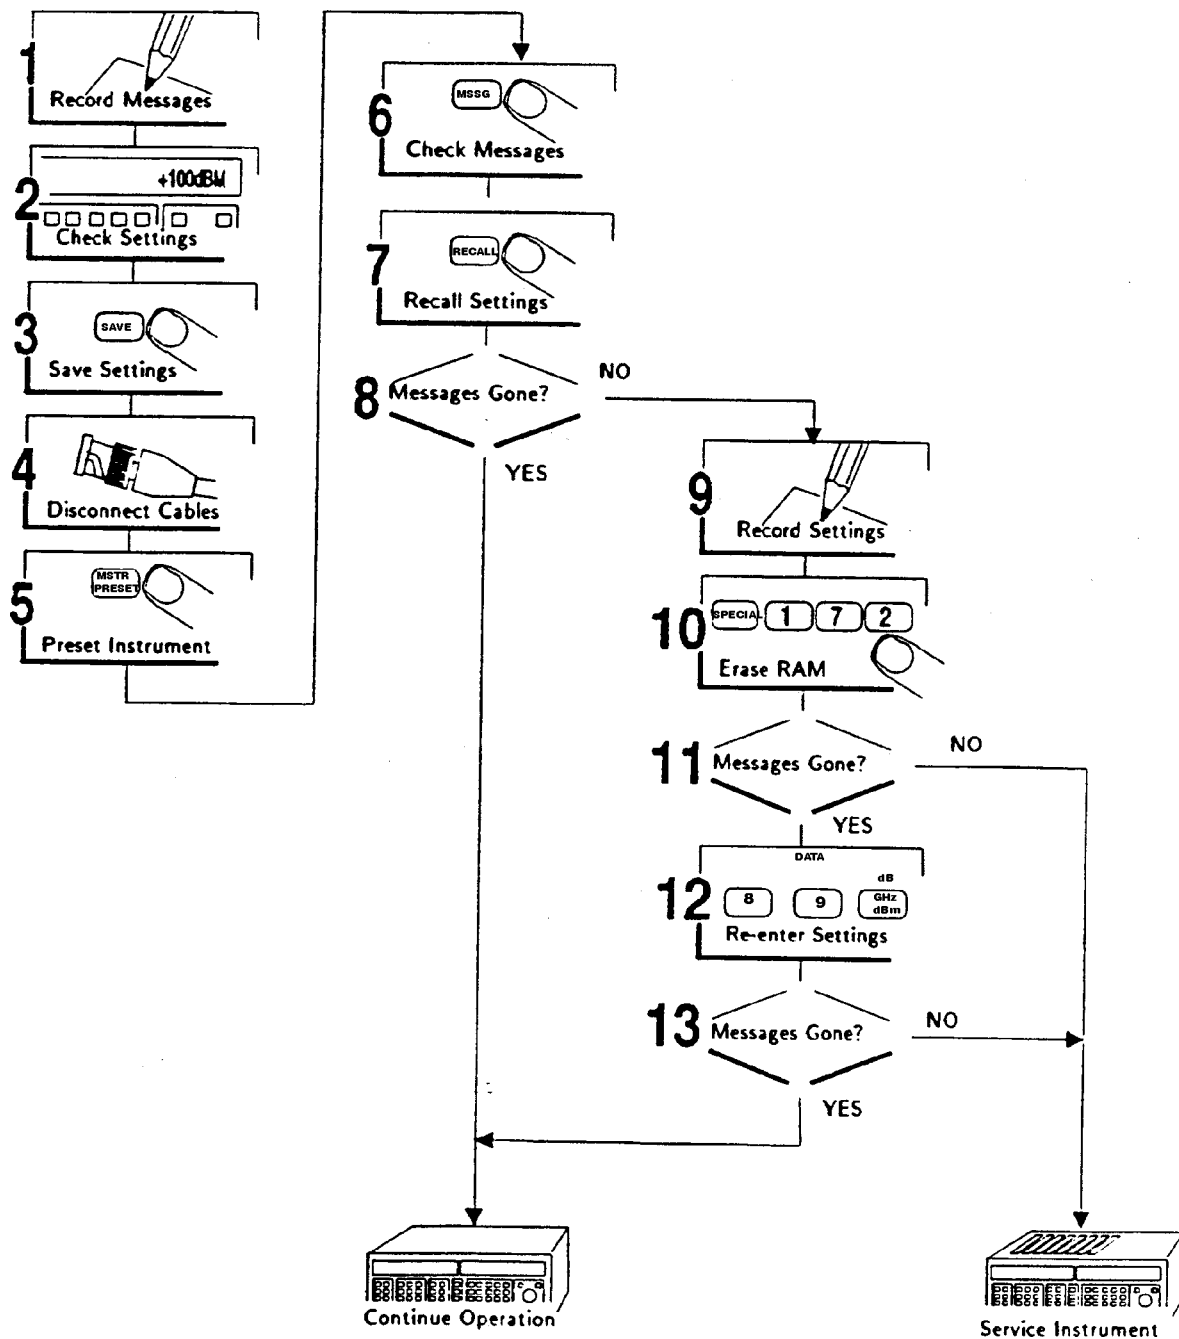

Figure 1. Corrective Action for Error Messages
Hardware Failure 1	A communications discriminator failure has been detected at power up, or detected as a result of a self-calibration or self-test. Refer to Figure 1 for corrective action.
Hardware Failure 2	A VCO failure has been detected at power up, or detected as a result of a self-calibration or self-test. Refer to Figure 1 for corrective action.
Hardware Failure 3	A Fractional-N failure has been detected at power up, or detected as a result of a self-calibration or self-test. Refer to Figure 1 for corrective action.
Hardware Failure 4	A modulation distribution failure has been detected at power up, or detected as a result of a self-calibration or self-test. Refer to Figure 1 for corrective action.
Hardware Failure 5	An ALC failure has been detected at power up, or detected as a result of a self-calibration or self-test. Refer to Figure 1 for corrective action.
Hardware Failure 6	An attenuator failure has been detected at power up, or detected as a result of a self-calibration or self-test. Refer to Figure 1 for corrective action.
Hardware Failure 7	An audio source failure has been detected at power up, or detected as a result of a self-calibration or self-test. Refer to Figure 1 for corrective action.
Hardware Failure 8	A reference failure has been detected at power up, or detected as a result of a self-calibration or self-test. Refer to Figure 1 for corrective action.
Hardware Failure 9	A doubler failure has been detected at power up, or detected as a result of a self-calibration or self-test. Refer to Figure 1 for corrective action.
Hardware Failure 10	A High Frequency Output Section failure has been detected at power up, or detected as a result of self-calibration or self-test. Refer to Figure 1 for corrective action.
Hardware Failure 11	A Low Frequency Output Section failure has been detected at power up, or detected as a result of self-calibration or self-test. Refer to Figure 1 for corrective action.
Hardware Failure 12	A Microwave Extender Automatic-Level-Control (ALC) out-of-lock (OOL) condition occurred. Refer to Figure 1 for corrective action.
Hardware Failure 13	A front panel failure has been detected at power up, or detected as a result of a self-calibration or self-test. Refer to Figure 1 for corrective action.
Hardware Failure 14	A power supply failure has been detected at power up, or detected as a result of a self-calibration or self-test. Refer to Figure 1 for corrective action.
Hardware Failure 15	An I/O board failure has been detected at power up, or detected as a result of a self-calibration or self-test. Refer to Figure 1 for corrective action.
Hardware Failure 16	A controller failure has been detected at power up, or detected as a result of a self-calibration or self-test. Refer to Figure 1 for corrective action.
Hardware Failure 17	A Pulse Modulator failure has been detected at power up, or detected as a result of a self-calibration or self-test. Refer to Figure 1 for corrective action.
Hardware Failure 18	A frequency counter failure has been detected at power up, or detected as a result of a self-calibration or self-test. Refer to Figure 1 for corrective action.
Hardware Failure 21	A communications discriminator out-of-lock (OOL) condition exists. Refer to Figure 1 for corrective action.
Hardware Failure 22	A VCO out-of-lock (OOL) condition exists. Refer to Figure 1 for corrective action.
Hardware Failure 23	A Fractional-N (NF) phase-locked-loop (PLL) out-of-lock (OOL) condition exists. Refer to Figure 1 for corrective action.
Hardware Failure 24	A VCO frequency-locked-loop (FLL) out-of-lock (OOL) condition exists. Refer to Figure 1 for corrective action.
Hardware Failure 25	A VCO phase-locked-loop (PLL) out-of-lock (OOL) condition exists. Refer to Figure 1 for corrective action.
Hardware Failure 26	A fast controller failure has been detected at power up, or detected as a result of a self-calibration or self-test. Refer to Figure 1 for corrective action.
Hardware Failure 27	An audio source out-of-lock (OOL) condition exists. Refer to Figure 1 for corrective action.
Hardware Failure 28	A reference out-of-lock (OOL) condition exists. Refer to Figure 1 for corrective action.
Hardware Failure 30	A High Frequency Output Section Automatic-Level-Control (ALC) out-of-lock (OOL) condition occurred. Refer to Figure 1 for corrective action
Hardware Failure 31	A ROM failure has been detected at power up, or detected as a result of a self-calibration or self-test. Refer to Figure 1 for corrective action.
Hardware Failure 32	A ROM failure has been detected at power up, or detected as a result of a self-calibration or self-test. Refer to Figure 1 for corrective action.
Hardware Failure 33	A ROM failure has been detected at power up, or detected as a result of a self-calibration or self-test. Refer to Figure 1 for corrective action.